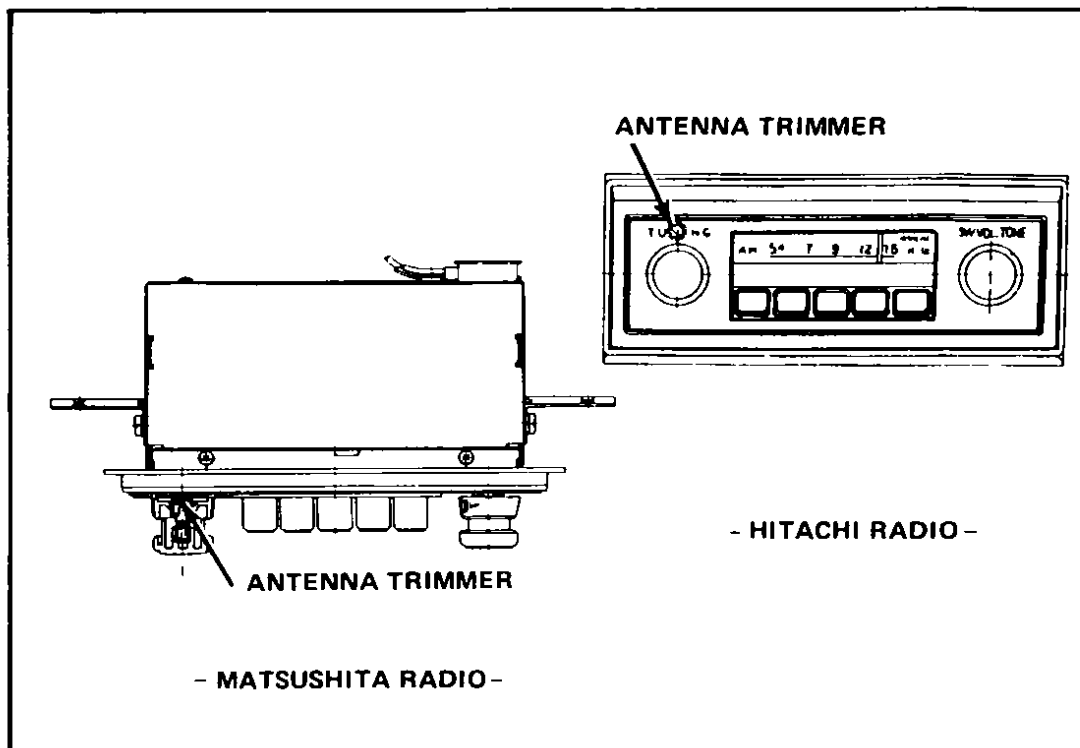

Fig 78 Antenna trimmer adjustment screw – Model 610
- 18 To install, position the radio and speaker (if removed) and attach the wires. Adjust the antenna trimmer as follows, Fig 78